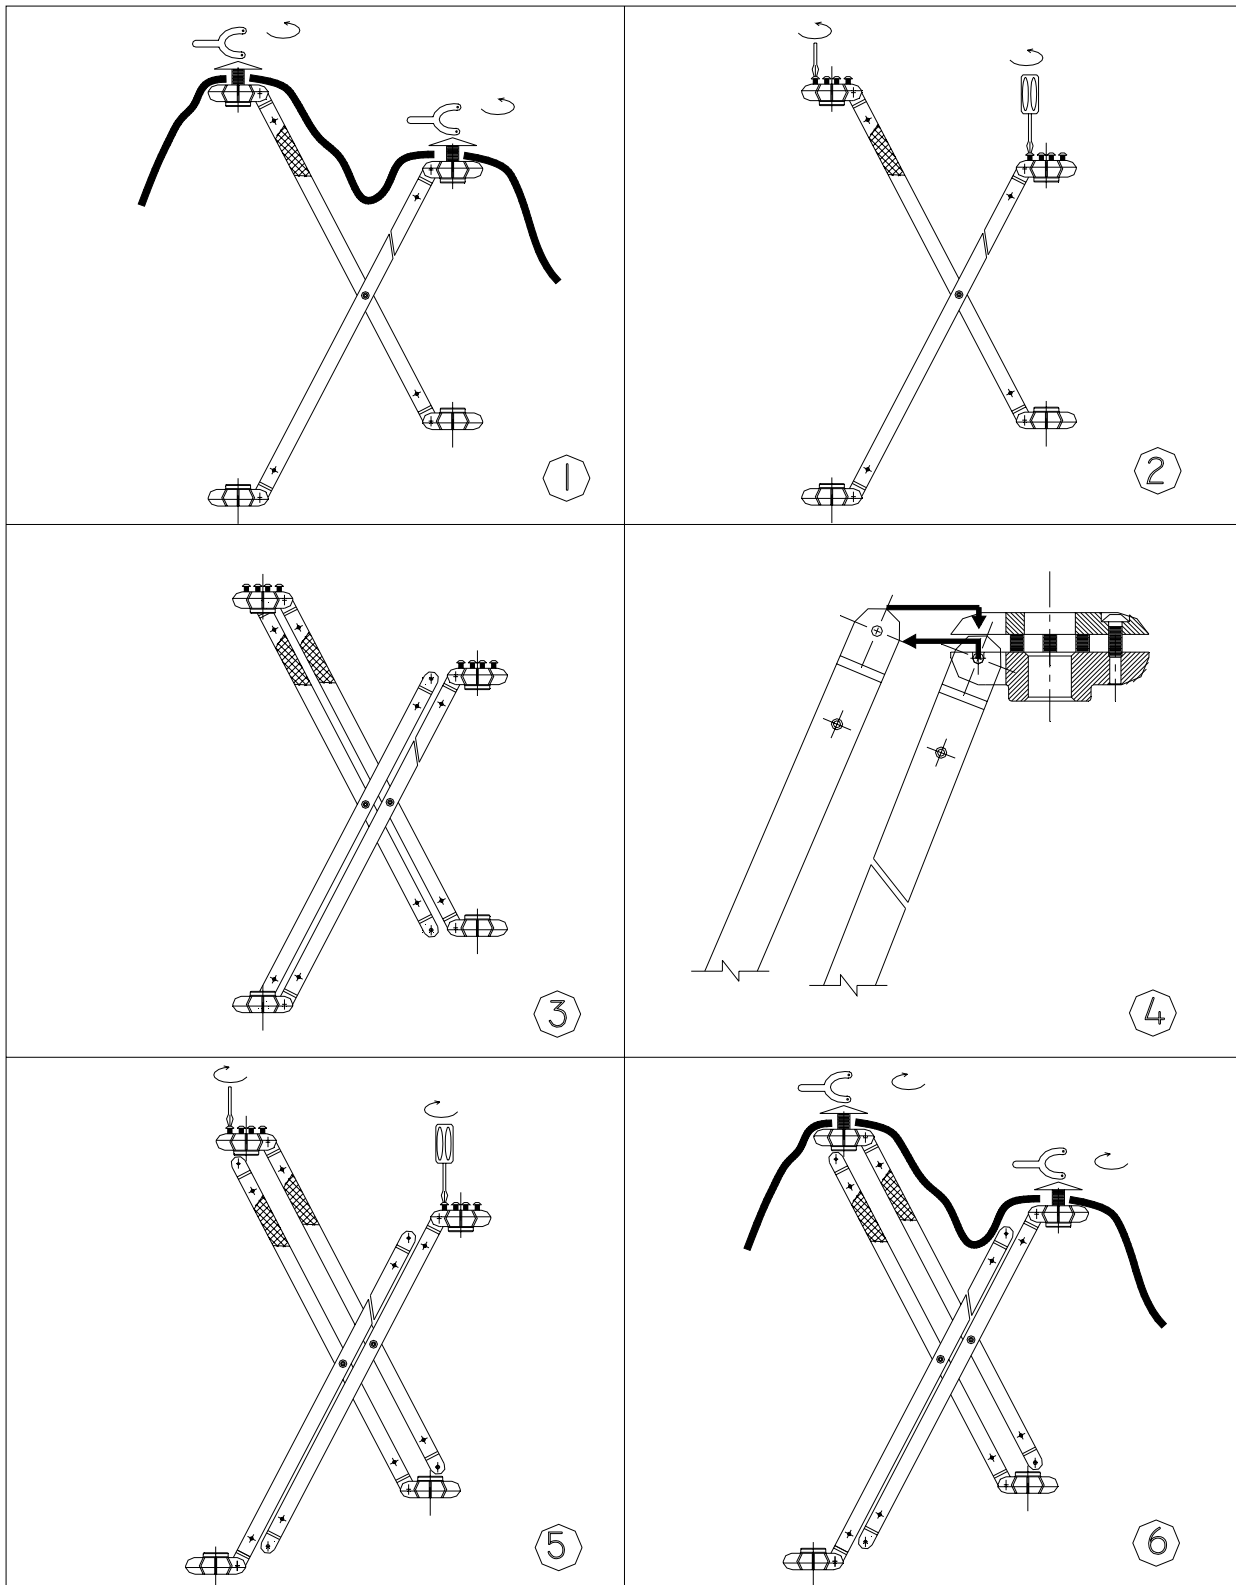

Figure 4-2 - Strut Pair Replacement Frames
If a strut pair(s) is damaged, strike the Shelter and effect repairs as follows: (refer to Figure 4-2, page 4-3).
15. Use a spanner wrench to remove keepers from the exterior cover. Work only in the area where the damaged struts are located (see Figure 4-2, **Frame 1**).
16. Use the ratchet screwdriver to loosen all screws from both exterior hubs where the damaged strut pair is connected. **Do not remove damaged strut pair from hubs at this time** (see Figure 4-2, **Frame 2**).
19. Place the replacement pair next to the damaged strut pair making certain that both color coded plugs and scissor pins match exactly (see Figure 4-2, **Frame 3**).
20. When the replacement pair is properly positioned, remove the ends of the damaged strut pair from exterior hubs and insert replacement strut pair (see Figure 4-2, **Frame 4**).
21. After replacement pair is in placed, tighten the screws on the exterior hubs so that it is again secured (see Figure 4-2, **Frame 5**).
23. Insert the keeper and tighten by hand until snug. Use the spanner wrench to tighten one-quarter turn past hand tight. **Do not over-tighten.** All seams should be aligned and the fabric reinforced circles around the keepers should not be twisted (see Figure 4-2, **Frame 6**).